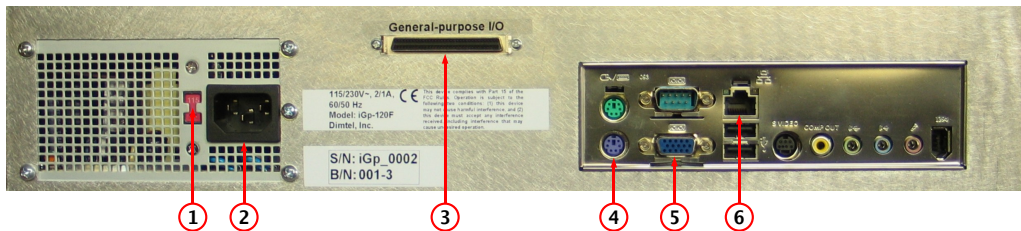

Figure 3: Rear panel features
WARNING: Before connecting power to the unit make sure the voltage selection switch (Fig. 3, item 1) is in the correct position (115 or 230 V).
1. Configure voltage selection switch (Fig. 3, item 1). Mains supply requirements for the iGp-200F are listed in Table 9;
7. Connect a PS/2 keyboard (Fig. 3, item 4);
8. Connect a video monitor (Fig. 3, item 5);
Setup program is included in the **IOC** for configuring the important features of the iGp-200F. The program can be executed locally or remotely. For local execution one must first connect a keyboard (Fig. 3, item 4) and a video monitor (Fig. 3, item 5) to the system. For remote setup, use **ssh** after system bootup to establish connection. In both setup methods the user must login as **root** (initial password is supplied with the system). If the newly received iGp-200F must be configured remotely (when, for example, a keyboard or a monitor is not available), such configuration can be performed using a dedicated network. Set up a network consisting of the iGp-200F, a network hub or a switch, and a remote computer. The iGp-200F is delivered with the following network configuration:
- Make sure no cable is connected to the general-purpose digital **I/O** port (Fig. 3, item 3);